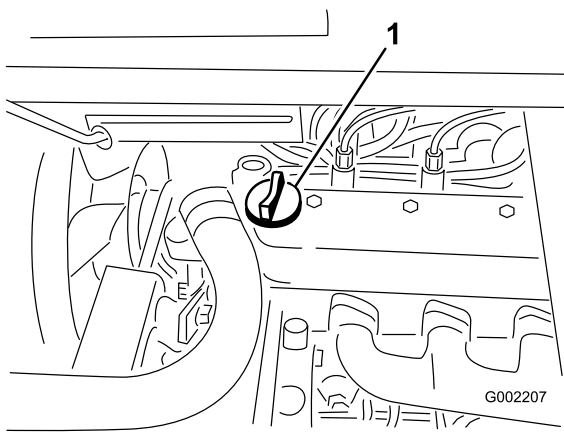

Figure 41
4. If the oil level is low, remove the filler cap from the valve cover (Figure 41) and pour oil into the opening until the oil level is up to the Full mark on the dipstick; refer to Servicing the Engine Oil \(page 37\) for the proper oil type and viscosity.